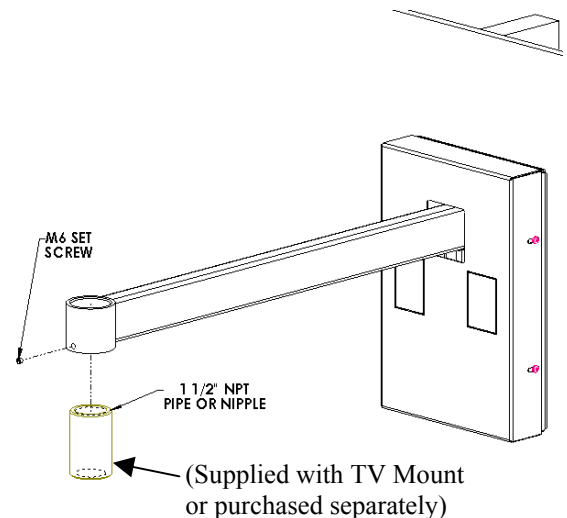

Figure 5. Connect NPT Pipe or Nipple to Wall Arm
2. Connect the 1-1/2" NPT pipe or nipple (supplied with TV Mount or purchased separately) to the wall arm. See Figure 5.